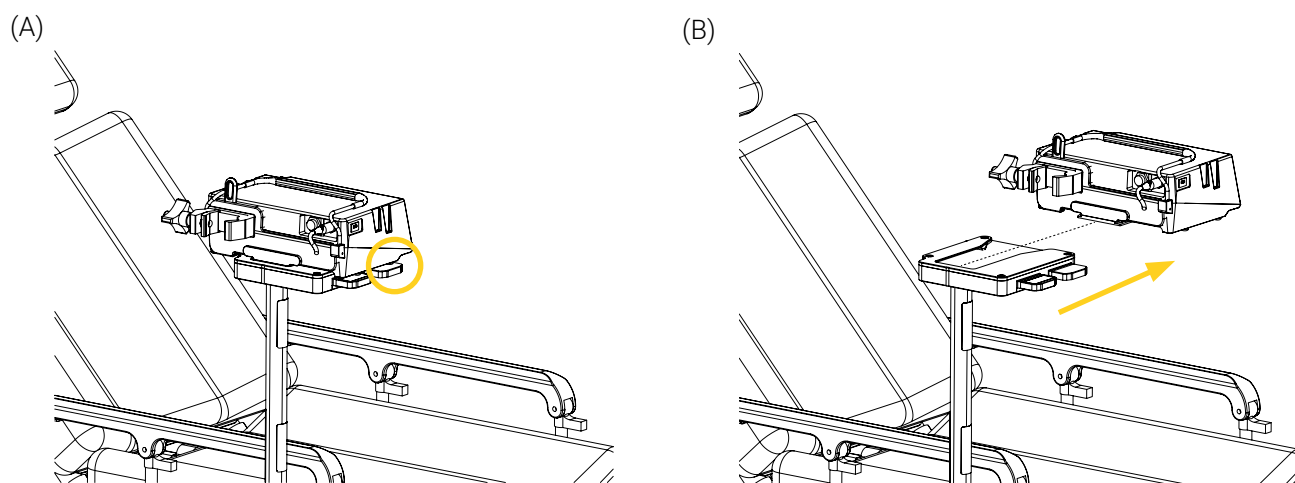

Figure 12: Removing the infusion pump from the NVM Support Bracket
1. Press and hold the quick release button on the NVM Support Bracket (Figure 12 A), then slide the infusion pump out of the support bracket horizontally (Figure 12 B), while paying close attention not to wedge the power cords or tubing.